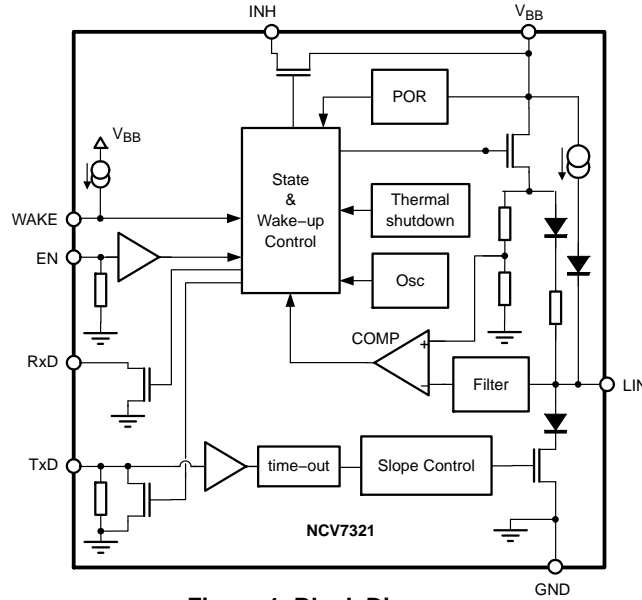

Figure 1. Block Diagram
16. The voltage drop in Normal mode between LIN and V_{BB} pin is the sum of the diode drop and the drop at serial pull-up resistor. The drop at the switch is negligible. See Figure 1.